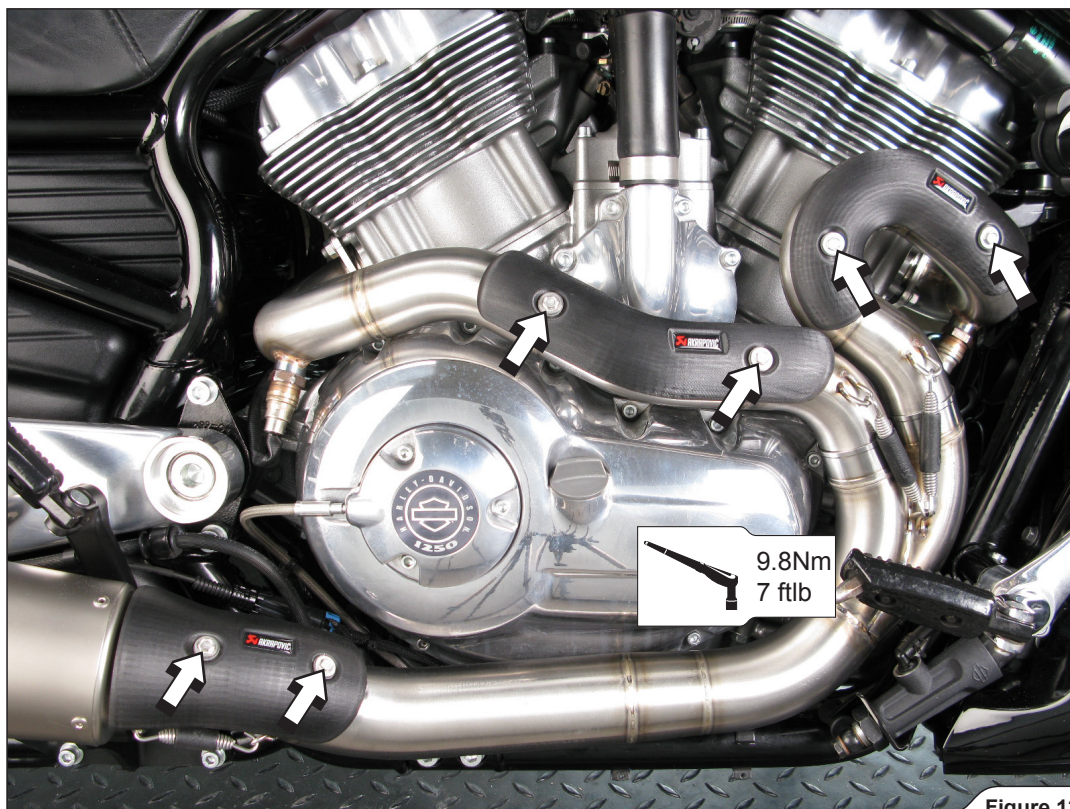

Figure 12
11. Attach the heat shields onto the Akrapovič exhaust shield brackets and tighten the shield's bolts (Figure 12).